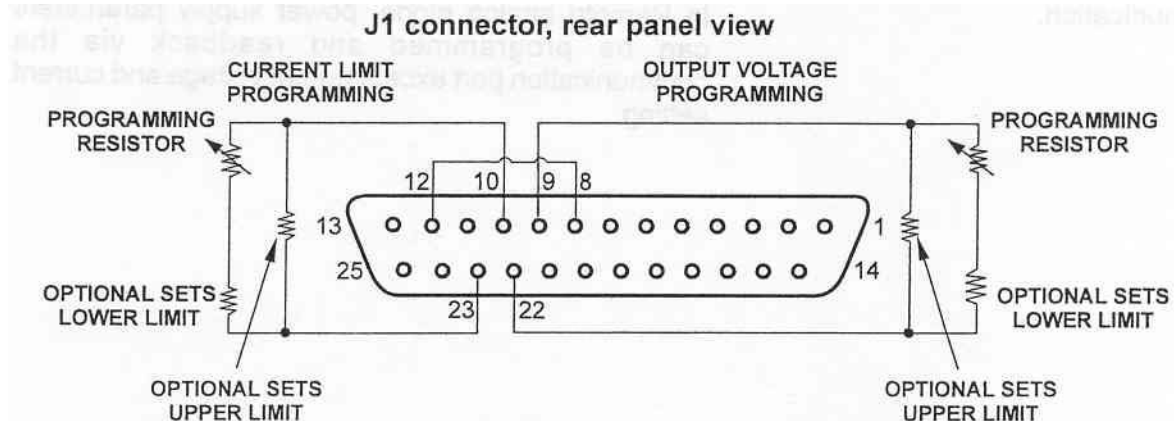

Fig.6-2: Remote resistive programming
- 11 Connect the programming resistors to the mating plug of J1 as shown in Fig.6-2.